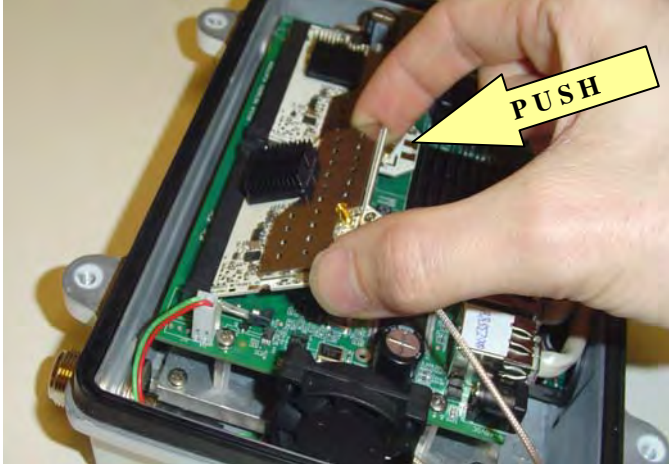

Fig.13
Step 8) Replace the uplink and downlink radio cards. ***This should be done in the same manner the cards are removed from the slots. Insert the card firmly into the slot at an angle to the motherboard (Fig.13), then push the card towards the motherboard allowing the clips to “grab” the card.